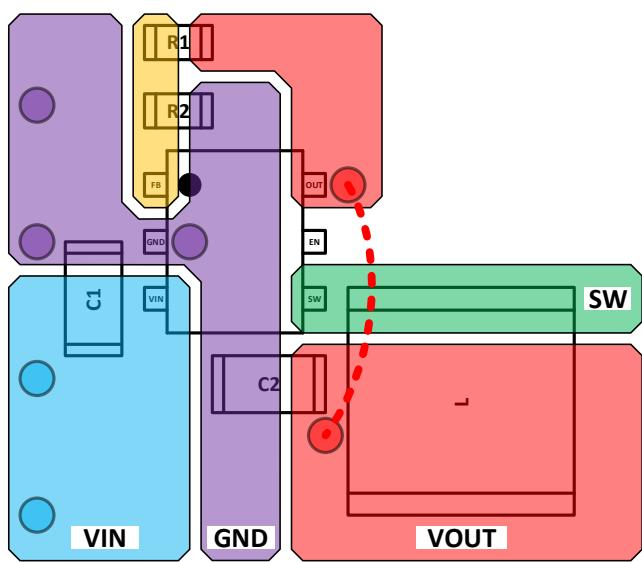

Figure 42. Recommended AP61100Q PCB Layout
9. See Figure 42 and Figure 43 for more details.